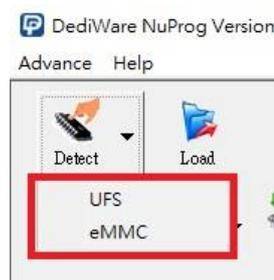
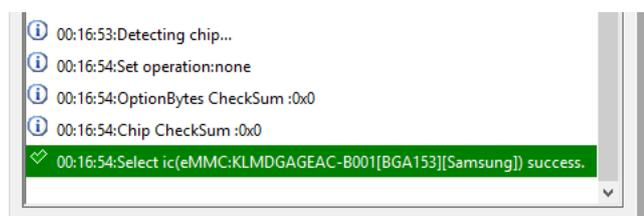
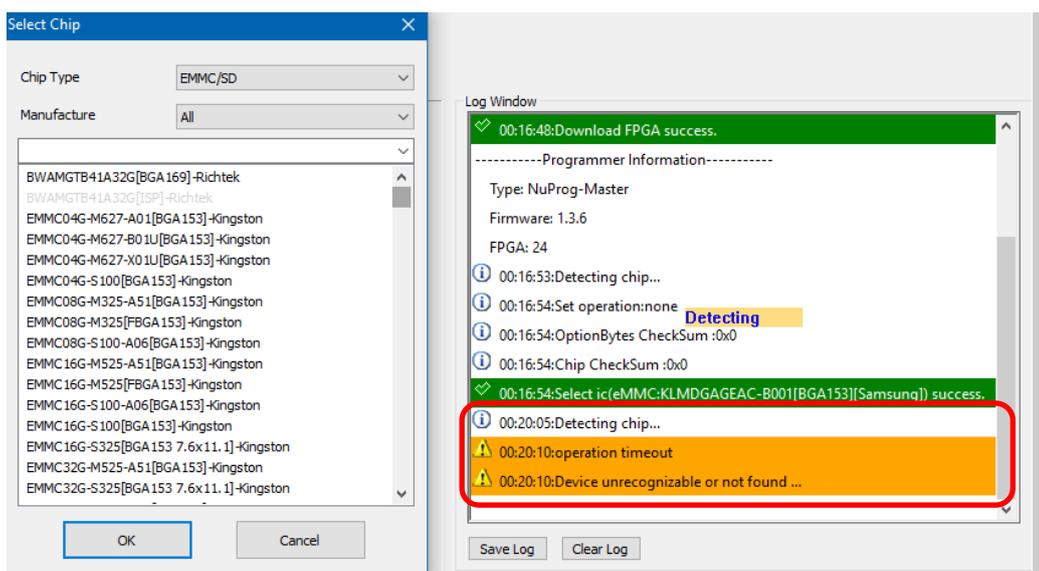

Fig. 5-56
Fig. 5-57
Fig. 5-58
- Detect:** Choose the correct IC type to detect the IC (Fig. 5-56) or choose the model number manually. If the data list has the corresponding model number that is supported, software will automatically import the values of the eMMC and the Log will appear as below (Fig. 5-57). If the IC model number that you need is not listed (Fig. 5-58), please feel free to contact us.